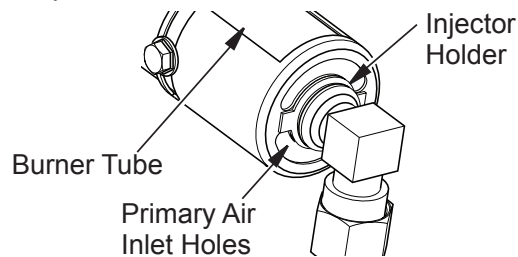

Figure 46 - Injector Holder On Outlet Burner Tube
2. Inspect burner, pilot and primary air inlet holes on injector holder for dust and dirt (see Figure 46).